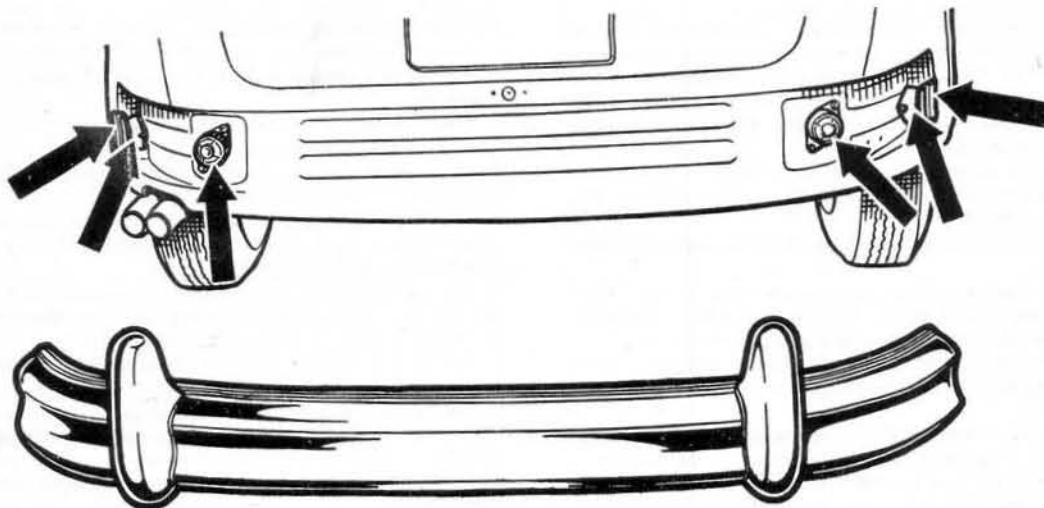

Fig.12.27. The attachment points for the rear bumper
- 1 The attachment points for the rear bumper are shown in Fig.12.27.